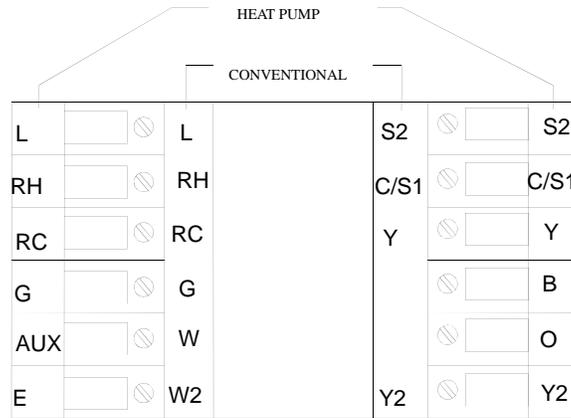

FIGURE 5
5. Connect wires to terminal block on base using appropriate wiring schematic (See Figure 5)